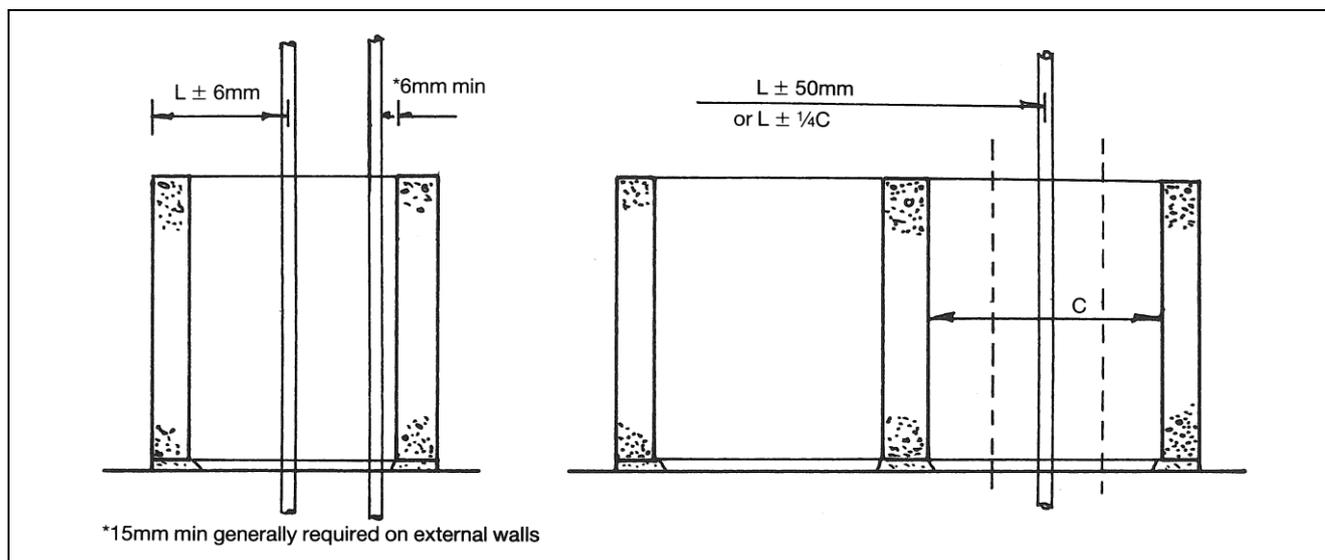

Figure 1: Fixing Tolerances for Reinforcement
- (ii) Within ± 50 mm in the case of the length of the wall or one quarter the length of an individual cell whichever is smaller see Figure 1.